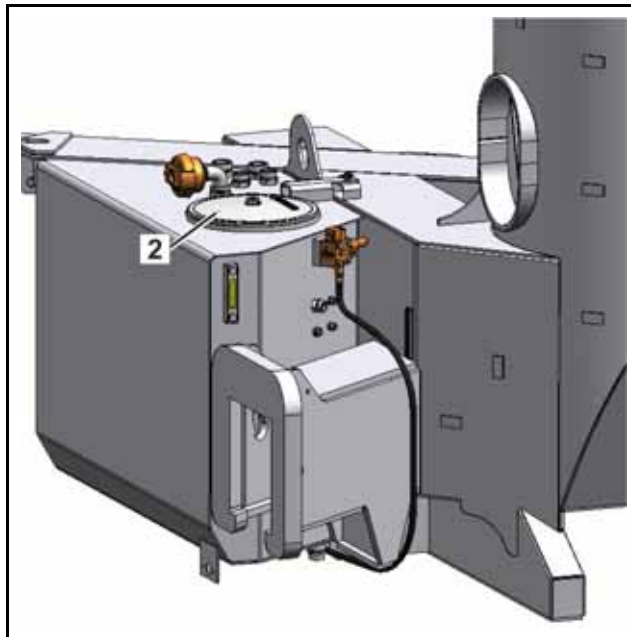

Fig. 275
Caption (Fig. 275)
If necessary, top up the hydraulic oil via the filler cap (2) (**Fig. 275**).